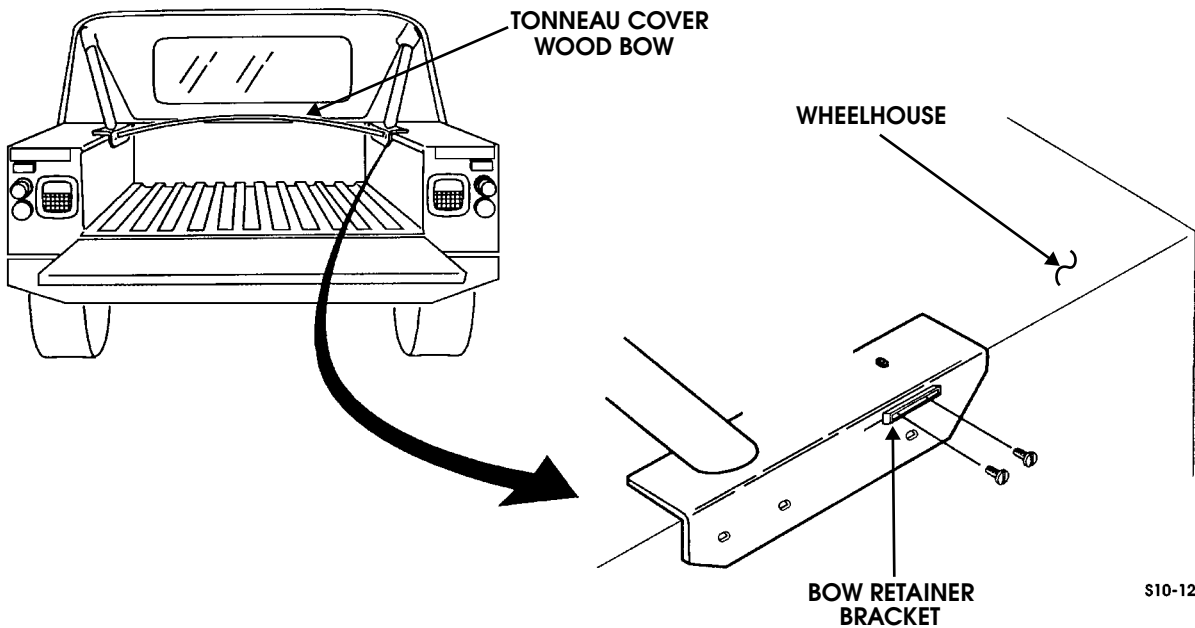

Figure 10-134: Tonneau Cover Wood Bow Removal
2. Remove tonneau cover wood bow from two retainer brackets (Figure 10-134).